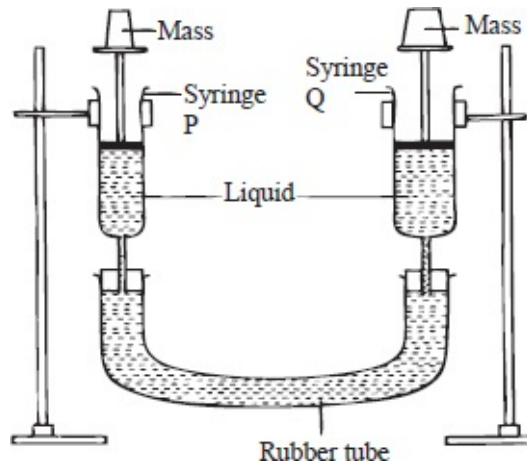

Fig. 4.12: Effects of transmitted pressure
- Replace one of the syringes in Experiment 4.3 (a) with syringe of different diameter, and set up the apparatus as shown in figure 4.12.